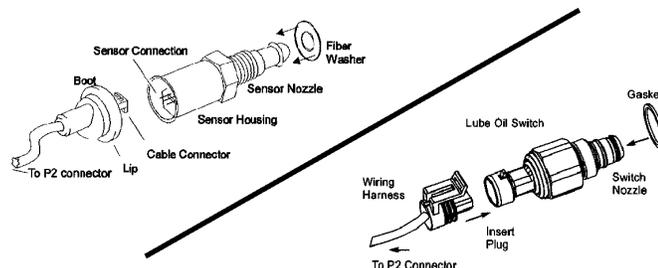

Figure 3: Sensor / Switch Installation
- b. Fit the fiber washer over the sensor nozzle. (See Figure 3.) Wet the switch nozzle and gasket with oil.
3. Use the following procedure to connect the cable to the sensor or switch. (See Figure 3.) Sensor or switch may vary from illustrated types.